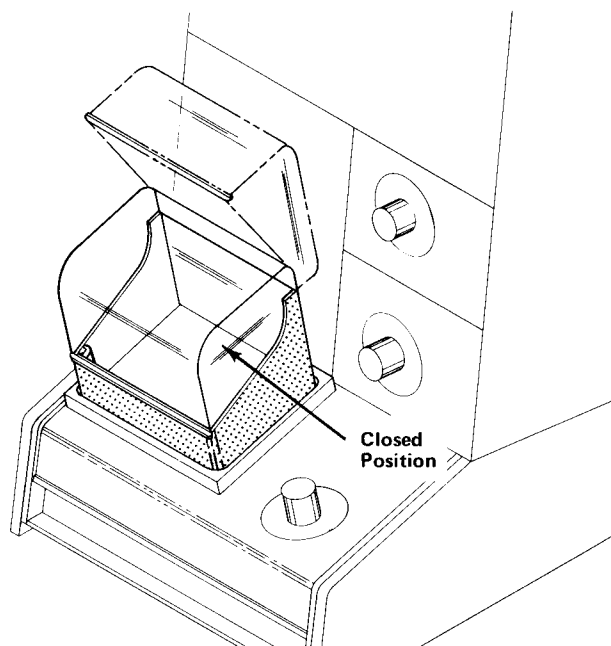

Fig. 6. Protective plastic box for 177 Test Fixture.
5. Install the protection box on the 177 Test Fixture as shown in Fig. 6, with the lid open.